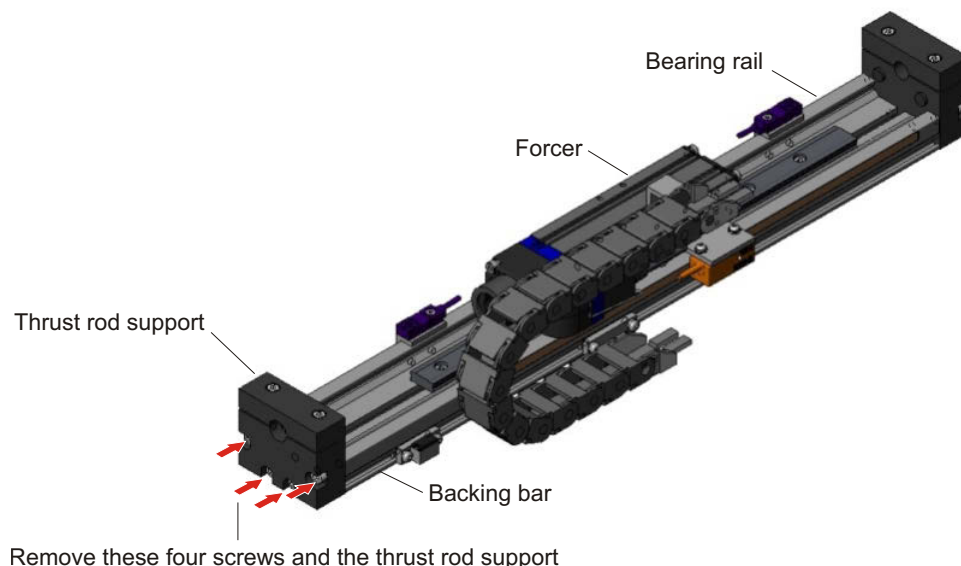

Figure 3.8
- Undo and remove the four M5 fixings securing one of the thrust rod supports to the backing bar and slide the thrust rod support out of the backing bar, see Figure 3.8.